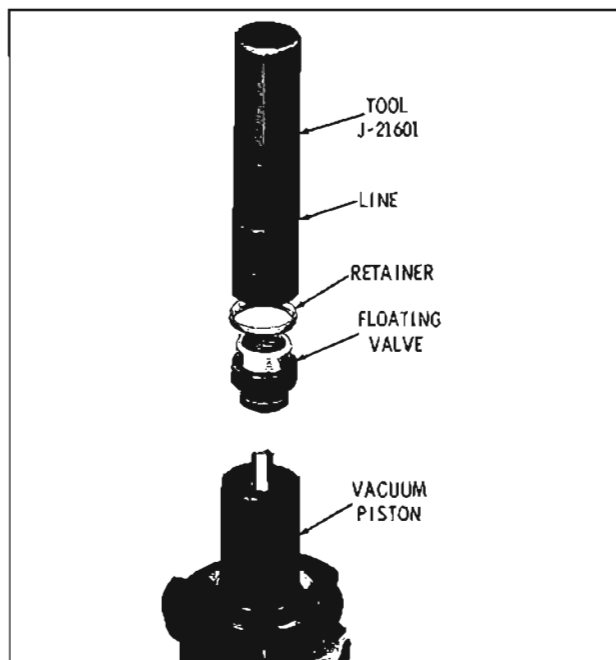

Fig. 11-36 Installing Floating Valve
6. Using Tool J-21601, press the floating valve until it seats in the vacuum piston. Line on tool will be flush with top of vacuum piston when floating valve is fully seated. (Fig. 11-36)